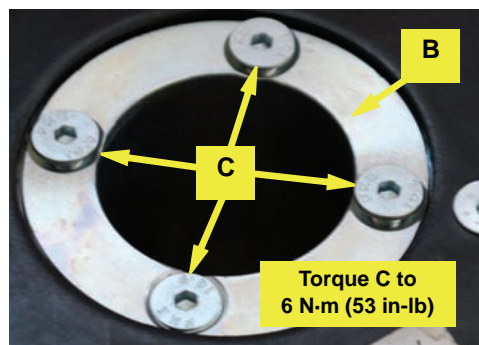

Figure 2c: Securing the shaft adapter. See Warning.
c. Using the four countersunk screws **C**, secure the shaft adapter **B** in the steering wheel. Torque the screws to **6 N·m (53 in-lb)** (Figure 2c).